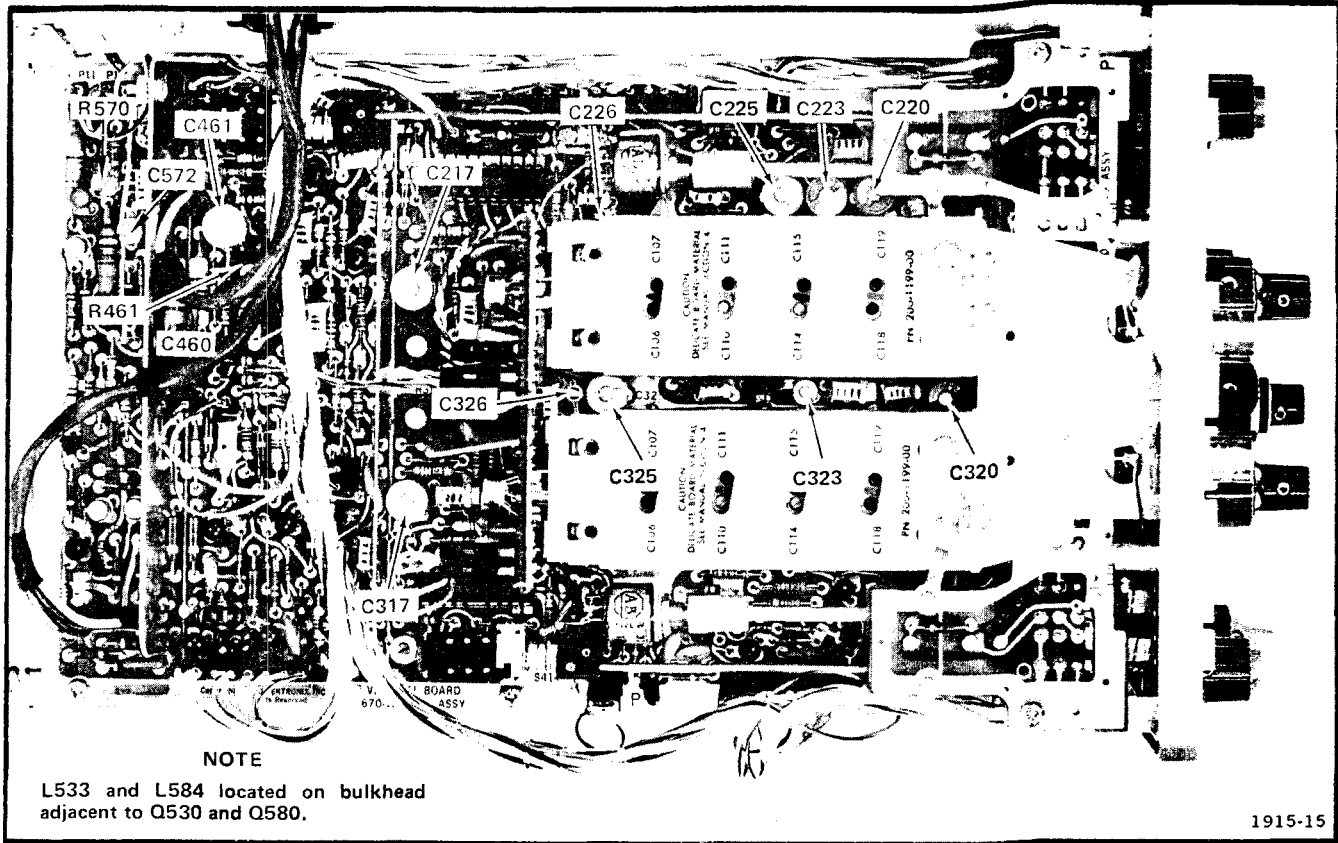

Fig. 5-6. High-frequency Compensation Adjustments.
f. CHECK—CRT display for aberrations typically less than +4%, -4%, a total of 4% peak to peak within the +20°C to +30°C temperature range. Set magnified sweep to .02 μs/DIV and check for a risetime of 14 ns (0.7 division). If risetime is out of specification or aberrations are greater than typical values; preset R570 and C226 to midrange, L533 core centered in form, and L584 core flush with top of form (see Fig. 5-6).
m. ADJUST—C317 and C326 (see Fig. 5-6) for optimum risetime with aberrations typically less than +4%, -4%, or a total of 4% peak to peak within the +20°C to +30°C temperature range.
ac. ADJUST—Refer to Table 5-3 for the correct adjustment and tolerances. See Fig. 5-6 for adjustment locations.